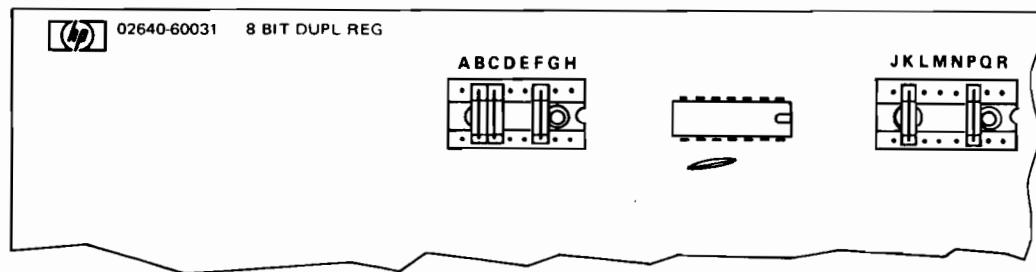

Figure 2. Terminal Duplex Register PCA Jumper Configuration
- f. Configure jumpers in the terminal duplex register PCA (HP part number 02640-60031) jumper sockets as shown in figure 2.